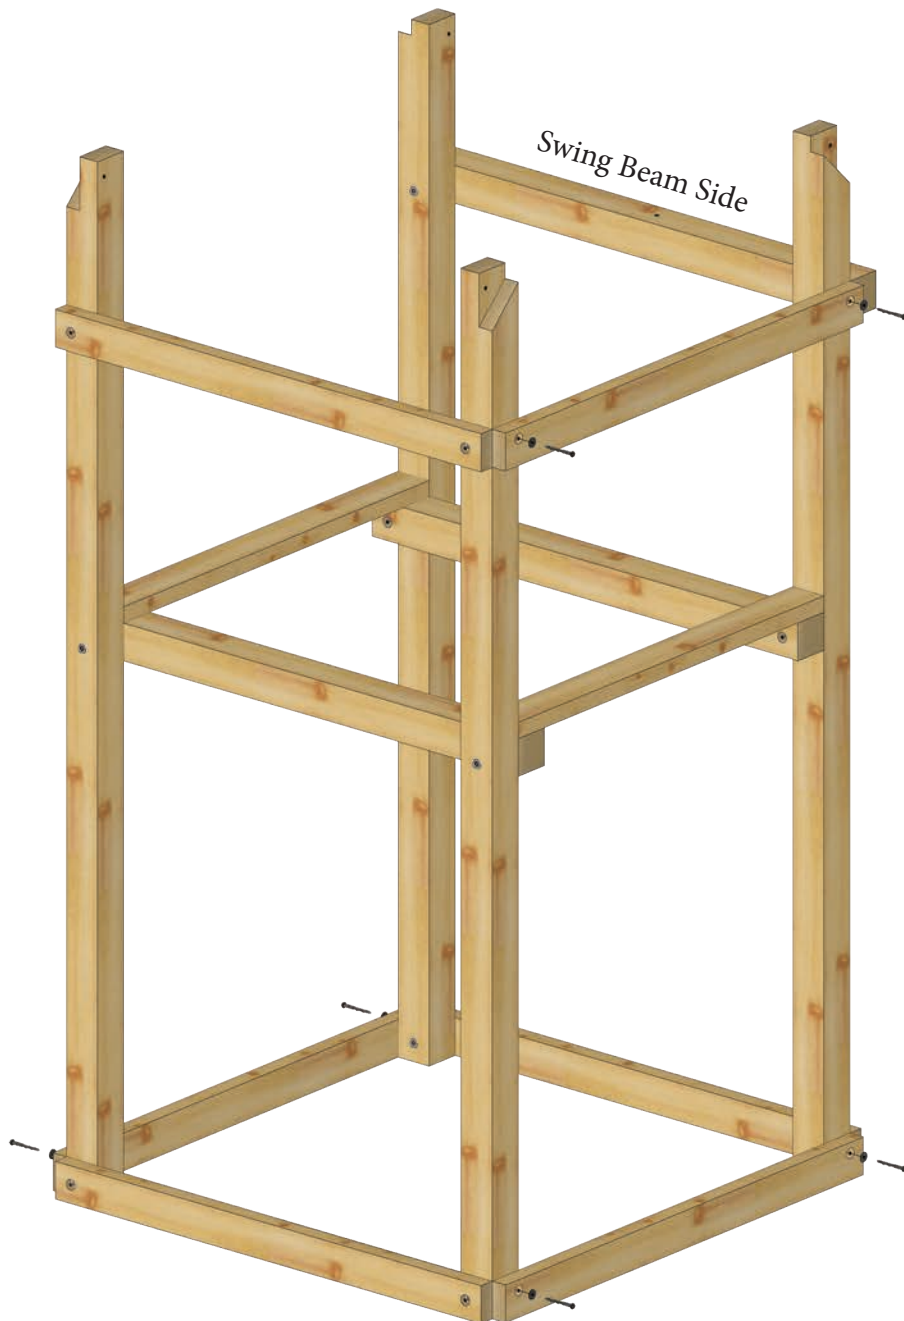

Figure 5.0
5.1 Fasten Top Panel Offset 48" (3) to Corner Post with 5/16 x 3 Lag Bolt with 5/16 washer as shown in Figure 5.0. Drive lags until washer starts to "sink" into wood.